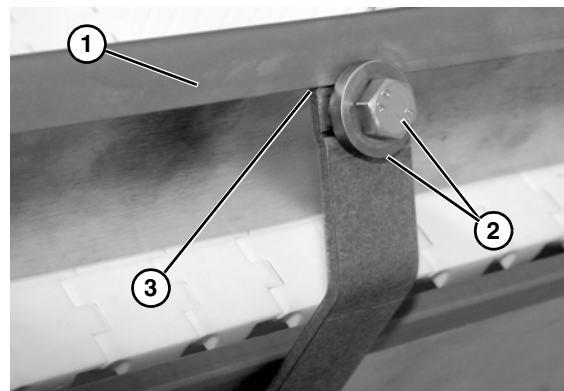

Figure 30
3. Attach guide (**Figure 30, item 1**) to the mounting brackets with hex bolts and spacers (**Figure 30, item 2**). Hand tighten only at this time.
4. Ensure that nose of bracket slips under the lip of guide (**Figure 30, item 3**).